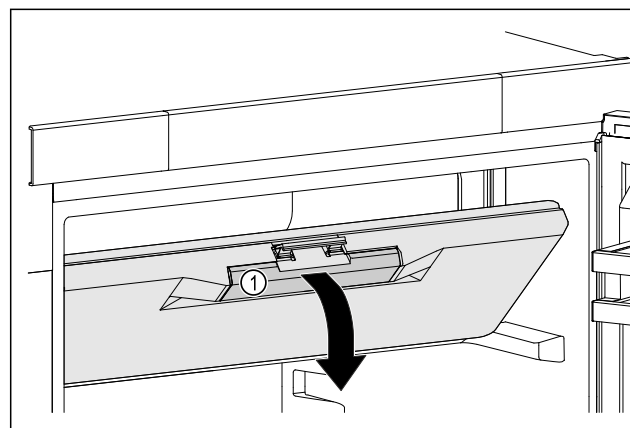

Fig. 47
- Hold the freezer compartment door by the recessed handle Fig. 47 (1).